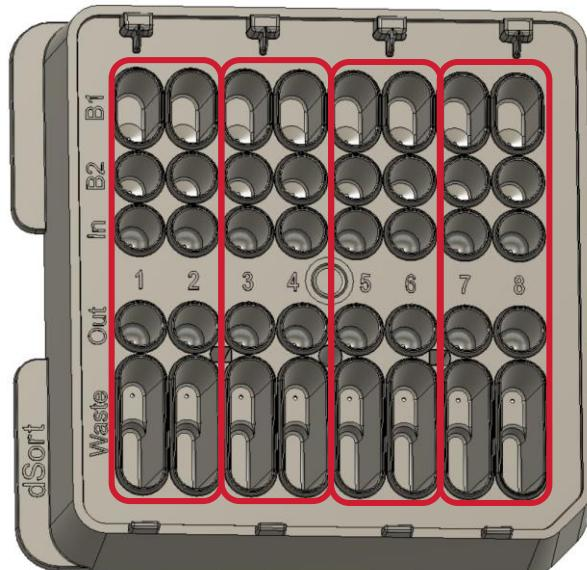

Fig. 3.1. Top view of the Xdrop DE20 Sort Cartridge with the wells (B1, B2, In, Out and Waste) and lanes (1–8) marked. Lane pairs are circled in red.
Xdrop Sort can run up to 8 lanes in parallel, but it is also possible to select fewer lanes. When selecting lanes, note that the lanes are paired (Fig. 3.1) with the threshold level for sorting applying to both lanes in a pair. When running all 8 lanes, choose samples with similar positive droplet fluorescence levels for the paired lanes. If your samples have issues such as low fluorescence or high-level background fluorescence, we advise using only odd or even lanes, and then running the remaining samples in a subsequent run on the opposite lanes. Example: First run: lanes 1, 3, 5, and 7, Next run: lanes 2, 4, 6, and 8. The cartridge can be used twice.
1. Unpack the Xdrop DE20 Sort Cartridge and place it on a clean flat surface in a LAF cabinet or a similar clean, dust-free environment. The layout of the DE20 Sort Cartridge is depicted in Fig. 3.1.
8. Initially, droplets are shown in the background droplet colors (red and blue). One dot indicates the highest value detected within one second. Thresholds for detection and sorting are set by sliding the white and green lines, respectively, using the touch screen. Move the threshold lines between the lower and upper fluorescent populations. Set the thresholds for each lane pair (see Fig. 3.1 for view of lane pairs) for **all** selected lane pairs, then press Start sorting, which will activate the sorting across all lanes. The Xdrop Sort sorts the droplets from each selected lane and the count of sorted droplets can be followed separately for each lane.
During the run, the user can adjust the fluorescence threshold for each lane pair (see Fig. 3.1 for an overview of lane pairs). Droplets with a fluorescence level higher than the detection and sorting thresholds are sorted into the well **#Out** and will appear as green dots on the droplet view screen. Droplets with a fluorescence level below the respective thresholds are directed to the waste well **#Waste**.